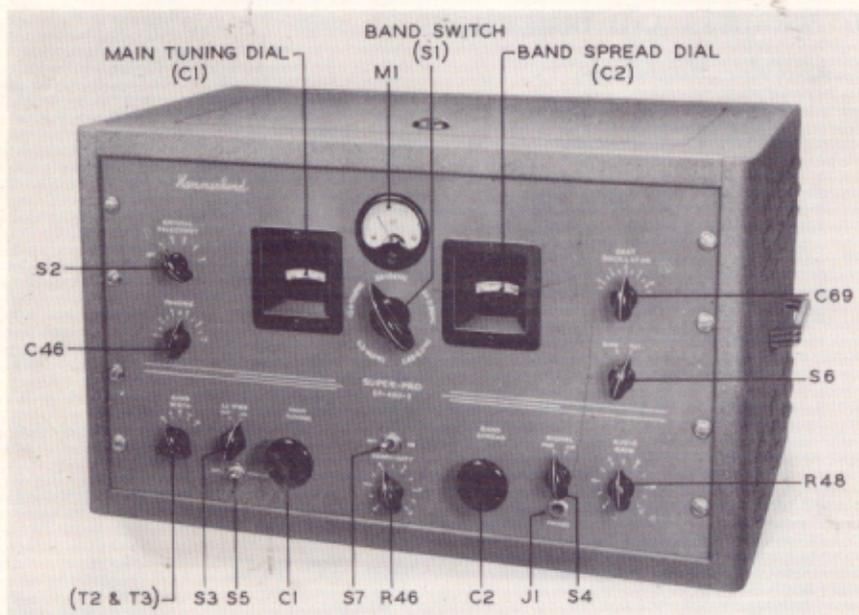
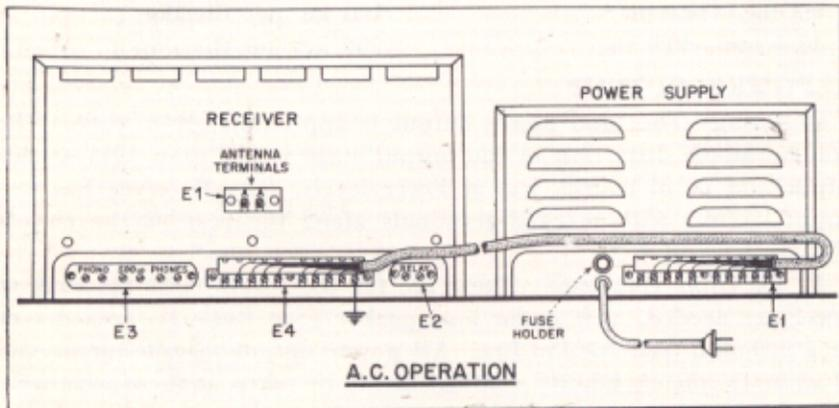

FIG. 2—Lay-out of controls referred to in text.
FIG. 3—Connections for power cable—A.C. operation.
panel (FIG. 2). Select the desired band by turning the BAND SWITCH knob right or left to the band indicated.
a. *Rating*—The total power output is approximately 8 watts. The total harmonic distortion of the output stage is less than 10% at this output and is, of course, less at lower levels. The Receiver has two output circuits with marked terminals along the rear of the chassis (FIG. 3).
(1) Remove the sheet-metal covers from terminal strip (E4, FIG. 3) on rear of Receiver and from terminal strip (E1, FIG. 3) on Power Supply. See that all ten screws on each strip are unscrewed at least three turns. Then attach one end of the connector cable to each terminal strip *exactly* as shown in FIG. 3 and tighten all screws securely. Make certain that each slotted spade lug on the cable strips makes contact with its respective screw terminal *only*, since a lug jammed between *two* screws could cause considerable trouble. Immediately
Connect a single-wire lead-in to the end of the antenna nearest the Receiver and try to have the lead-in wire leave the antenna approximately at right angles. Connect the lead-in to one of the "A" terminals (on terminal strip E1, FIG. 3) at the rear of the Receiver. Connect the other "A" terminal to a good ground, preferably not to the Receiver chassis. Run this ground lead to a water pipe or to a metal rod driven into the ground deep enough to reach moist earth. Keep the length of the ground lead as short as possible. Make the best possible electrical connections between the antenna and its lead-in and between the ground lead and "ground."
d. *Chassis Ground*: It is not usually necessary to ground the Receiver chassis, but this can be done by connecting the ground lead to the left-hand PHONO or to the left-hand PHONES terminal (located on terminal strip E3, FIG. 3). These two terminals are grounded to the inside of the chassis.
e. *Earphones*: Plug a headset into the PHONES jack (J1, FIG. 2), or connect it to screw terminals marked PHONES on rear of chassis. No matching transformer is necessary (see PAR. 20b).
f. *Loudspeaker*: The permanent magnet dynamic loudspeaker supplied with the Receiver has a transformer mounted on its housing. This transformer matches the voice coil of the loudspeaker to the 500-ohm output terminals (on terminal strip E3, FIG. 3) located at the rear of the chassis (marked 500 ohms). For loudspeaker operation,
h. *Line Switch:* Turn the OFF-ON switch (S7, FIG. 2) on the Receiver front panel to OFF and plug the power cord of the Power Supply into the a-c powerline.
a. *Radiophone Reception:* Set the front panel controls (FIG. 2) as follows:
(1) Throw OFF-ON power switch in center of panel to ON. This puts Receiver in operation.
(2) Adjust band switch (S1, FIG. 2) to a band which is likely to be very active. This will facilitate the process of getting familiar with the various adjustments. If interference is not serious, BAND WIDTH control can be adjusted to a wider band width (higher number), depending upon the degree of fidelity desired. In general, adjust this control to band width giving best tone with least interference.
(3) Do all tuning, with or without the meter with BAND WIDTH control set at 3. Other settings give wider bands, making exact tuning difficult. Make band width adjustments *after* signal is tuned properly.
(4) LIMITER-OFF-ON control turns noise limiter on and off. The noise limiter will be most valuable on the higher frequencies, where interference from automobile ignition system is most bothersome.
(1) On strong signals, do not turn SENSITIVITY control all the way on, because it will cause overloading. If the AUDIO GAIN control is set at about 7, it is possible to regulate volume by using only the sensitivity control.
(2) To turn on the beat oscillator, set SIGNAL-MOD-CW switch at CW. The BEAT OSCILLATOR control varies the pitch of the beat between oscillator and incoming signal. Use beat oscillator for code reception and for locating weak modulated signals.
(3) Fading signals can be improved by returning AVC-MANUAL switch to AVC.
d. *Receiver Silencing:* Receiver can be silenced by flipping the SEND-REC switch (S6, FIG. 2) to SEND. This operation opens the "B" supply to the R-F and 1st detector tubes (V1, V2 and V3). The Receiver then remains ready for instant service during transmission periods. Note also that instead of using the SEND-REC switch, a relay may be connected to the RELAY terminals (E2, FIG. 3) at rear of Receiver and silencing controlled by relay action, actuated, for example, by the associated transmitter. When using a relay for silencing, flip SEND-REC switch to SEND (open) and *leave* it there. While the
*e. Phono Operation:* Leads from a phonograph pickup may be connected to the PHONO terminals (on terminal strip E3, FIG. 3) at the rear of the Receiver. (Note that the left-hand terminal of this pair is grounded to chassis.) Use the SEND-REC switch (S6) as a “phono-radio” switch by flipping it to the SEND position, thus eliminating radio interference and making it unnecessary to hunt for a “dead spot” on the tuning dial.